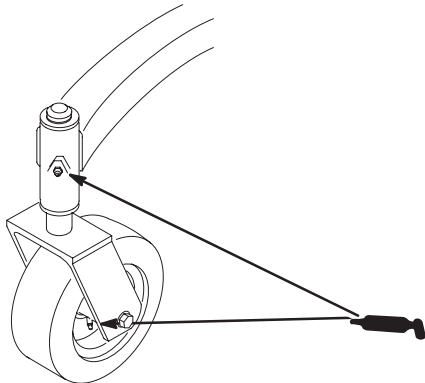

Figure 31
1. Lubricate the front wheel bearings and front spindles until grease begins to ooze out of the bearings (Fig. 31).